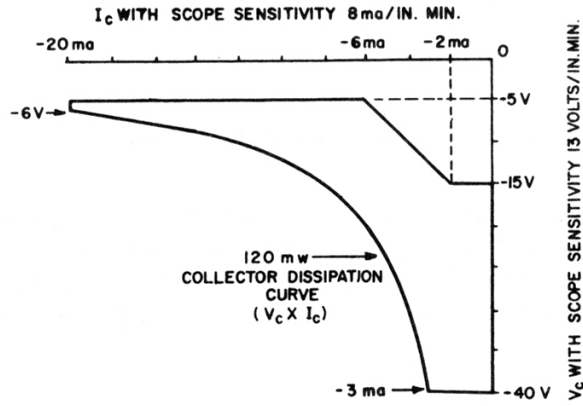
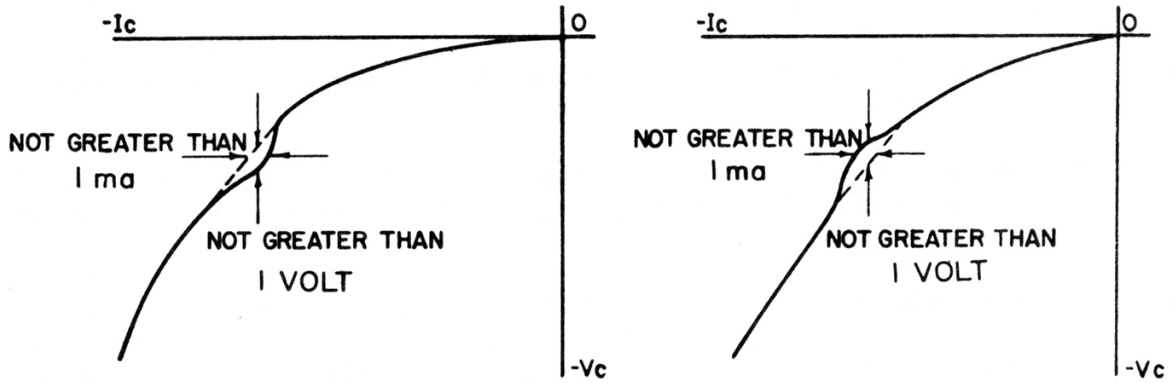

FIG. 1
FIG. 2
Characteristic Curve Anomalies (See Note 5 and figures 1, 2 & 3)
- Note 5: With emitter and collector load resistances of 1000 ohms and a sweep frequency of 60 cps the static output characteristic curves (with emitter current as the parameter) shall, when examined within the operating region outlined in figure 1, show no anomalies greater than those permitted by figures 2 and 3.